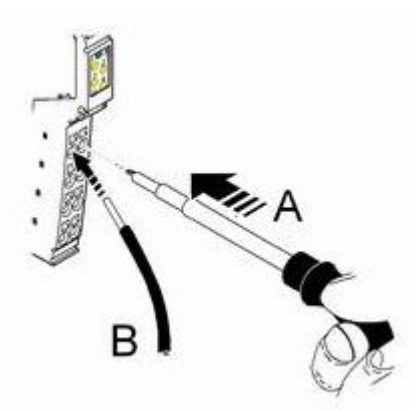

Fig. 10-24: Connecting lines to tension spring connectors
3. Put a screwdriver into the actuation slot of the corresponding terminal point (A in figure 10-24) so that the wire can be inserted into the opening of the tongue.
4. Insert the wire (B in figure 10-24).